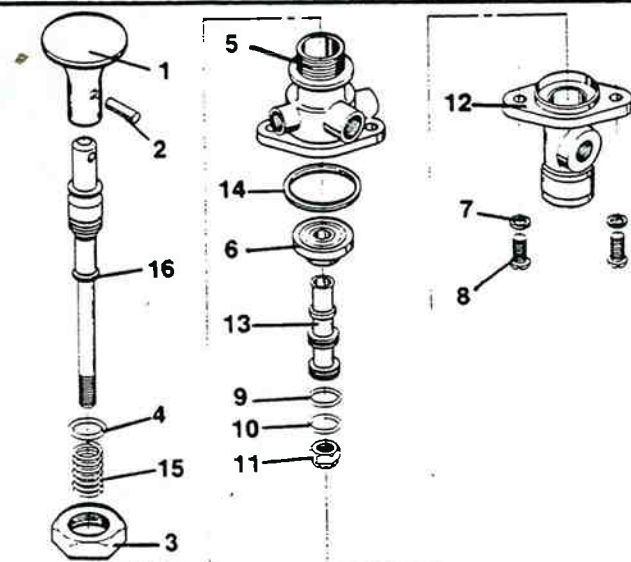

Figure 4-4. Push-Pull Control Valve Parts Breakdown.
3. Drive out the spiral pin that holds the button on the control valve plunger. Remove button. (See figure 4-4.)